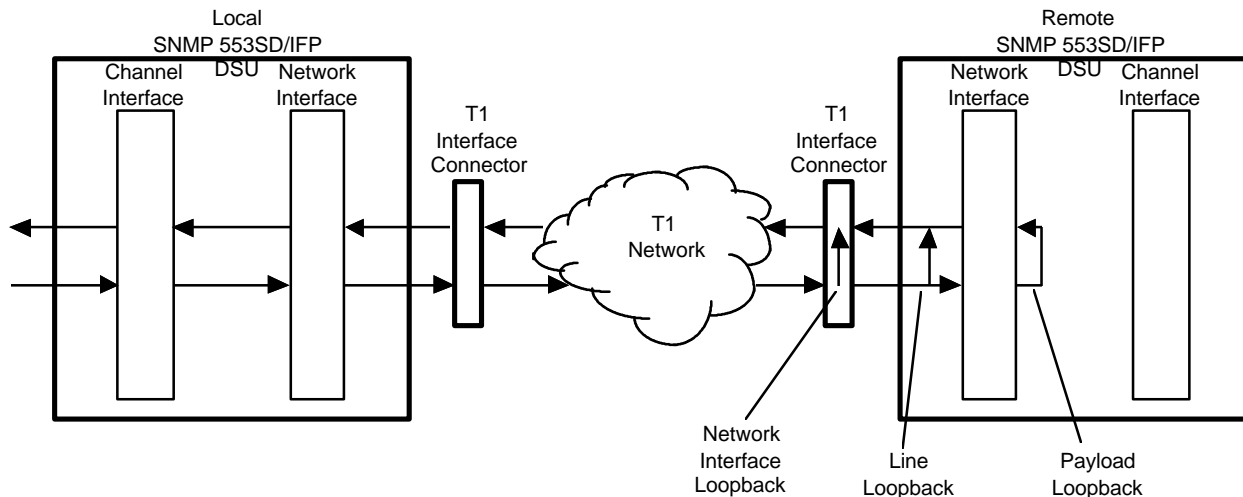

Figure 5-10 Remote DSU T1 Loopbacks
Remote Test (RT), illustrated in *Figure 5-10*, instructs the local DSU to transmit in-band codes to activate and deactivate a loopback at the remote DSU. The `Inband Loop — Framed/Unframed` selection in the `CSU Configuration` screen of the local DSU determines whether the transmitted loopback codes are framed or unframed.
Network Interface Loopback (NIL), illustrated in *Figure 5-10*, instructs the local DSU to transmit in-band codes to activate and deactivate a loopback at the T1 Interface Connector of the remote DSU. The `Inband Loop — Framed/Unframed` selection in the `CSU Configuration` screen of the local DSU determines whether the transmitted loopback codes are framed or unframed. NIL tests the T1 link isolated from the remote DSU.